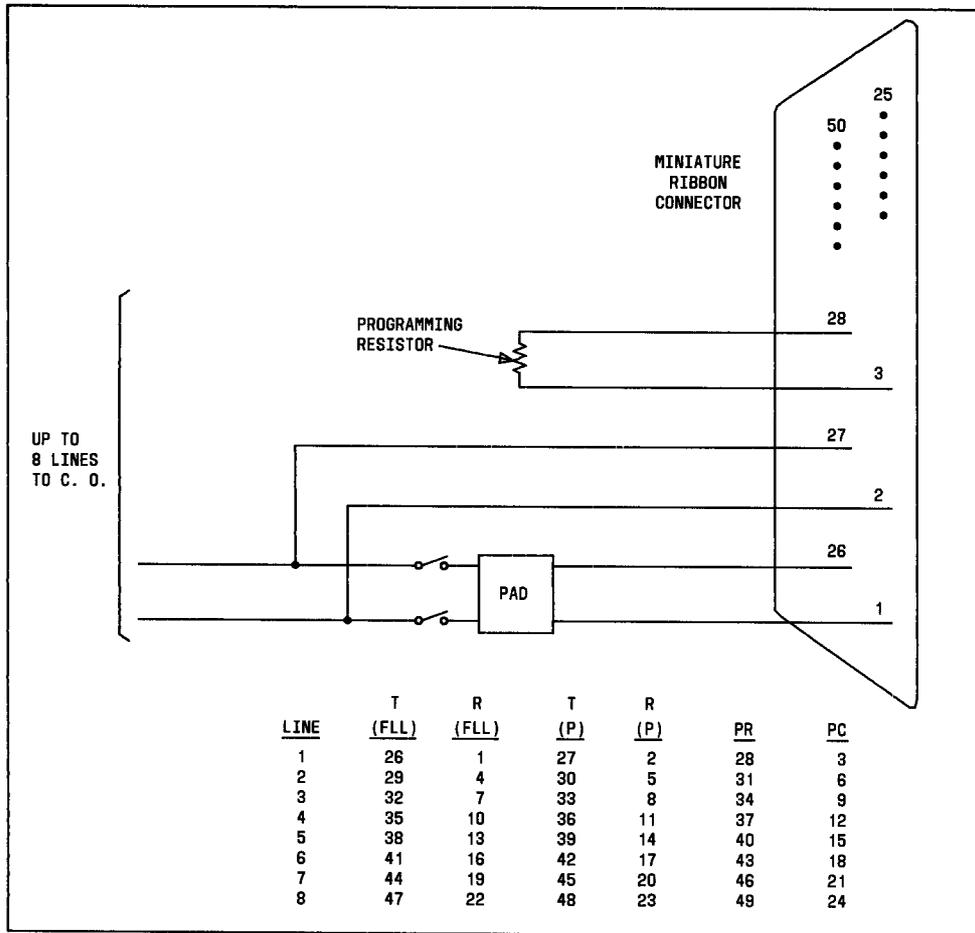

Fig. 1a—97A1 Data Mounting Equipped With D97A-Type Circuit Packs
1.004 The pin assignment for the connector that the data equipment connects to is shown in Fig. 1a along with a simplified schematic of the 97A1 data mounting equipped with D97A-type circuit packs.